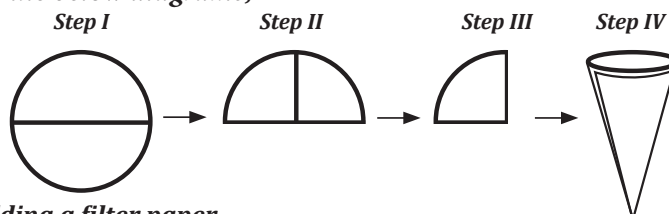

Figure 6.5; folding a filter paper.
4. Follow the steps as outlined in figure 6.5 to fold a filter paper.